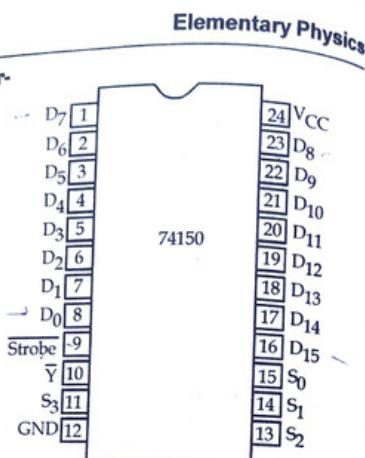
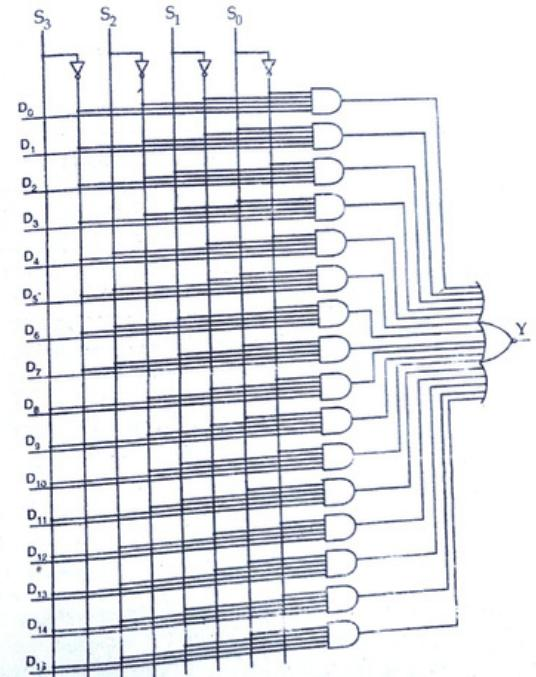

Fig. 4.5 (a) Pinout diagram of IC 74150 - 16-to-1 multiplexer
Fig. 4.6 : Logic diagram of 16-to-1 multiplexer
IC 74150 is a 16-to-1 TTL multiplexer. Its pinout diagram is shown in Fig. 4.5 (a). It has 16 inputs (D_0 - D_{15}), a single output (Y) and four select inputs (S_3 - S_0). Pins 1 to 8 and 16 to 23 are the input pins and the pins 11, 13, 14 and 15 are the select inputs $S_3S_2S_1S_0$. Pin 10 is the output and it equals the complement of the selected data input. Pin 9 is for the strobe, an input signal that disables or enables the multiplexer. A low strobe enables the multiplexer, so that output Y equals the complement of the input data bit (i.e. $Y = \overline{D}_n$). The truth table of IC 74150 is shown in Table. 4. The logic diagram of a typical 16-to-1 multiplexer is shown in Fig. 4.6.